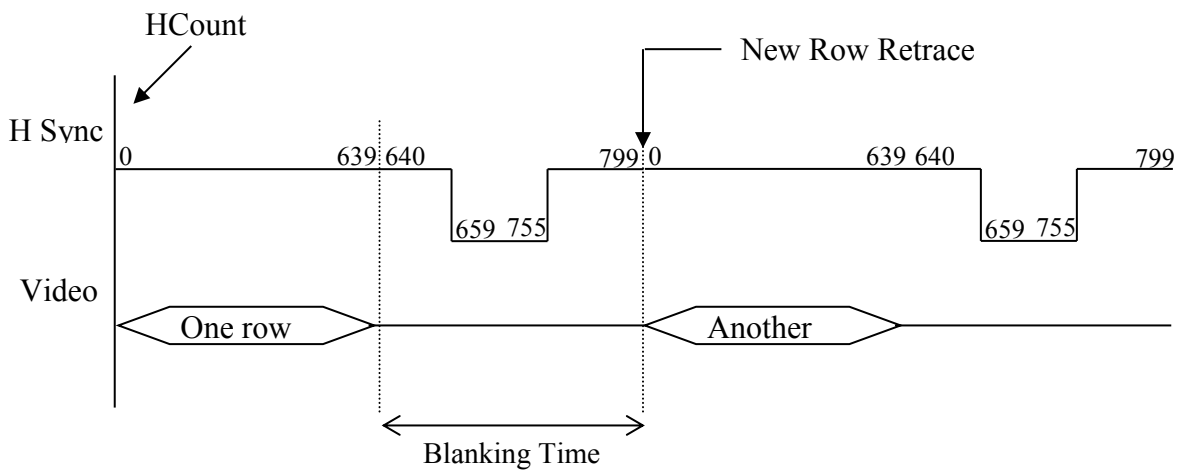
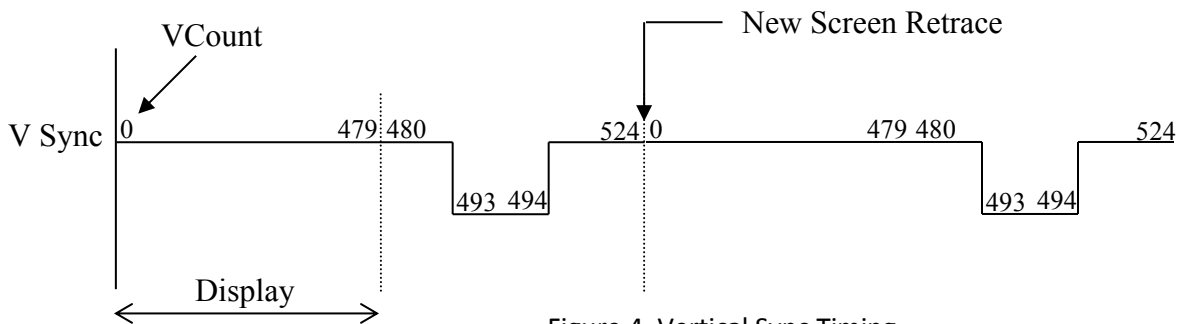

Figure 3. Horizontal Sync Timing
Figure 4. Vertical Sync Timing
Figure 3 shows the timing of the *hsync* signal. It is made low starting on the 659th pixel clock period for the row and made high again on the 755th pixel clock period. During the first 640 pixel clock periods, visible pixels are generated. During the last 160 pixel clock periods, nothing is generated on the screen.
Figure 4 shows the relationship between the *vsync* signal and the *hsync* signal. The digits represent the line count. As stated earlier, the first 480 lines are displayed while the last 45 lines correspond to the retrace period for the beam to get back to the top left corner of the screen.
- Generate the hsync signal based on the value of hcount as illustrated in Fig. 3. vsync is generated in a similar fashion as illustrated in Fig. 4.